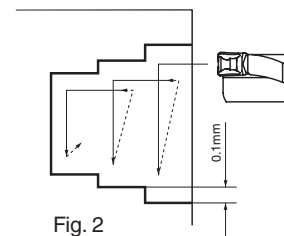

Fig. 2
- When widening the face groove width (Ref. to Fig. 2)